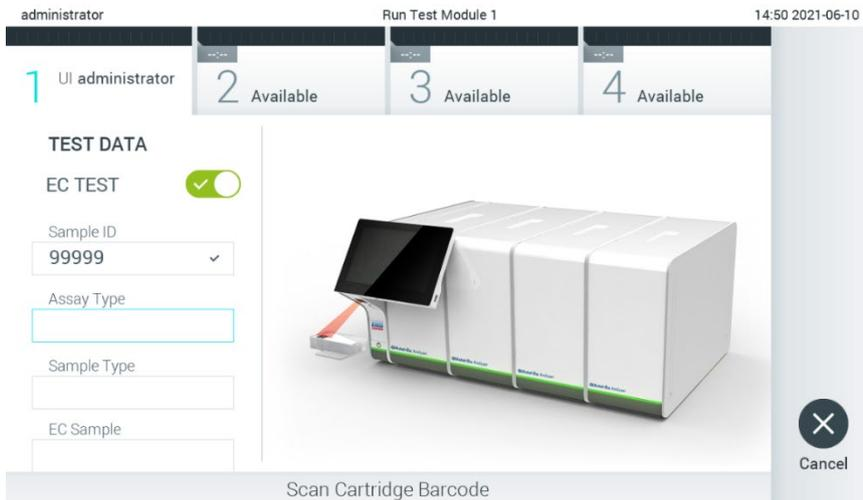

Figure 90. Scanning the QIAstat-Dx assay cartridge bar code.
- When prompted, scan the bar code of the QIAstat-Dx assay cartridge to be used. The QIAstat-Dx Analyzer 1.0 automatically recognizes the assay to be run, based on the QIAstat-Dx assay cartridge bar code (Figure 90)